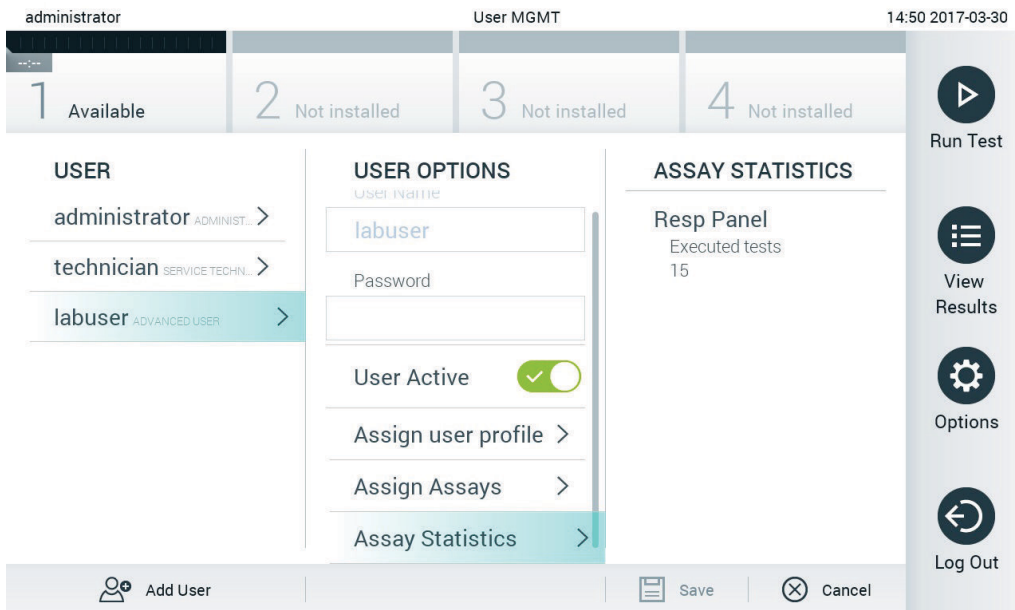

Figure 56. Viewing assay statistics.
- **Assay Statistics:** Shows the number of times an assay was run by the selected user (Figure 56).